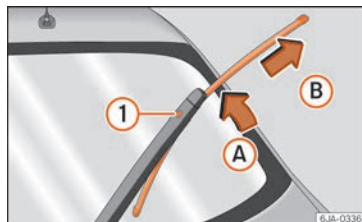

Fig. 71 Rear window wiper blade.
- Lift the rear window wiper arm away from the glass moving the blade slightly in the direction of the arm – arrow (A) »» Fig. 71.
- Unlock the catch ① with the other hand and remove the blade in the direction of arrow (B).